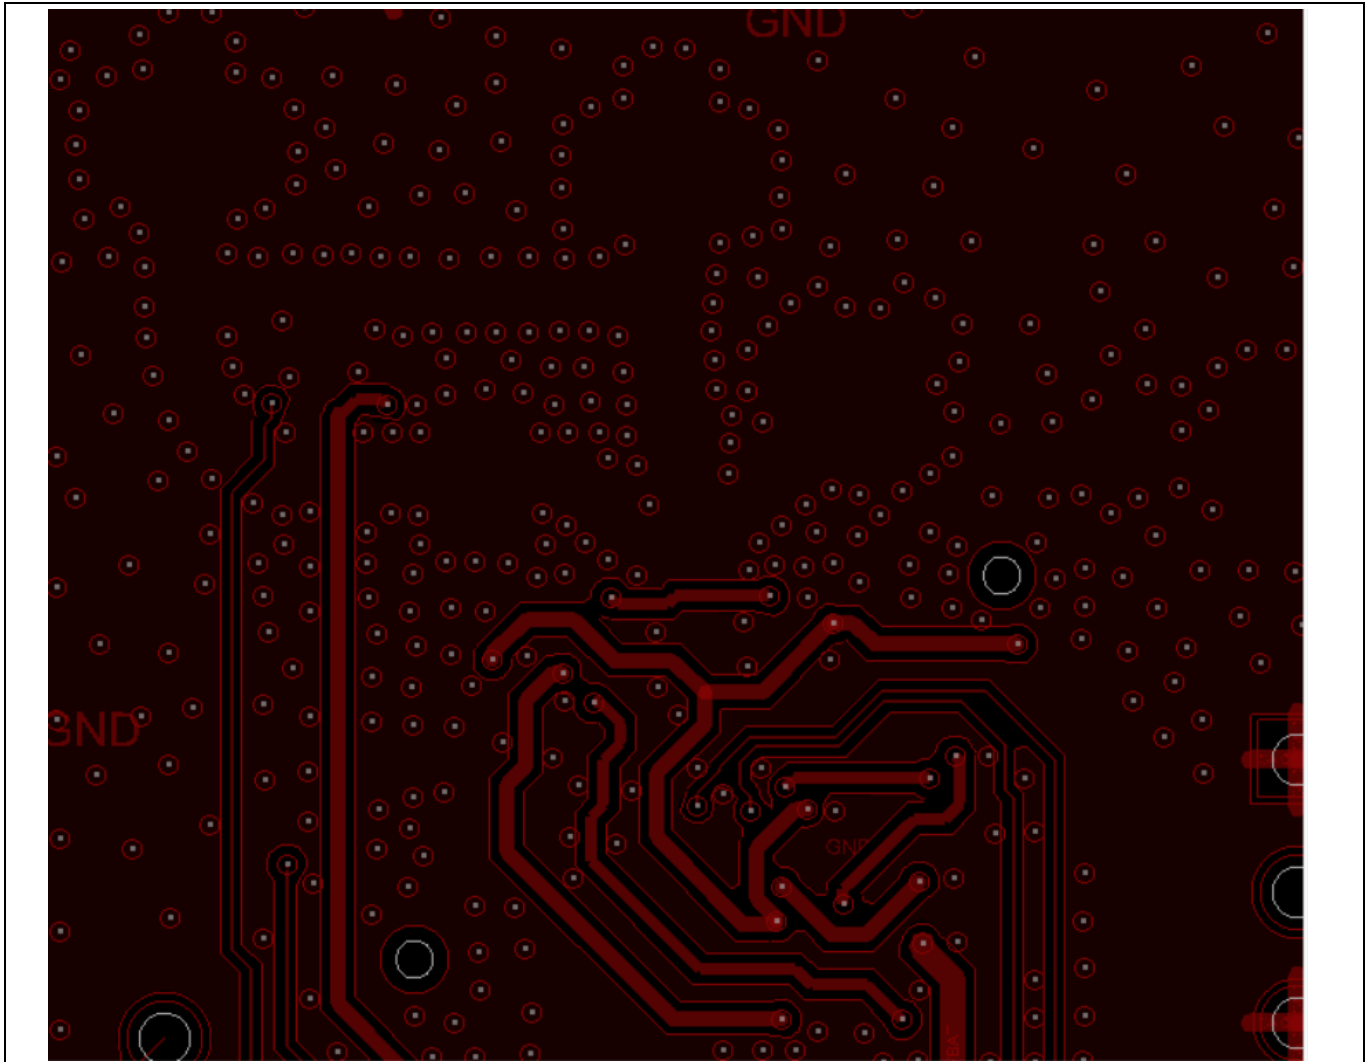

**Figure 8** CYW43439 Reference Board Layer 3 (Ground Plane)
**Figure 8** shows Layer 3, which is also predominantly a ground plane. If the FM section is not in use, the FM ground cut can be ignored.